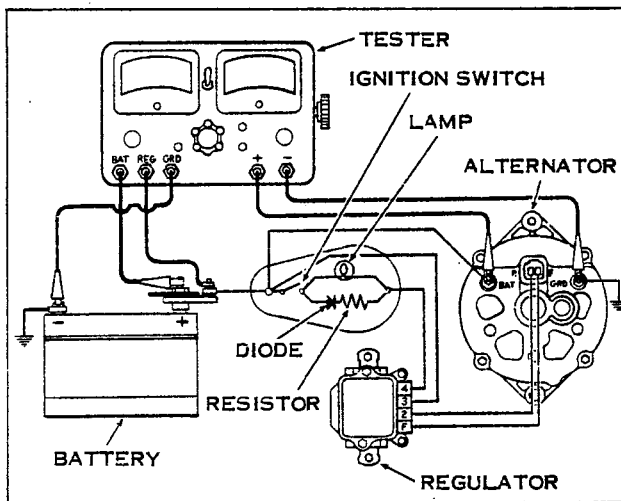

Figure 3.
3. VOLTAGE REGULATOR TESTS (See Figure 3)
B. TESTER CONNECTIONS (Same as previous Test 2 except as follows) (See Figure 3)